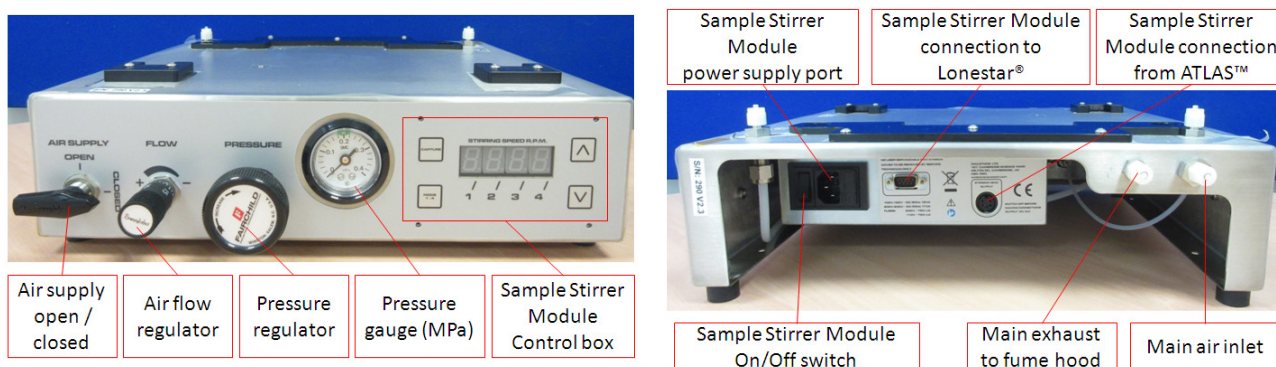

Figure 7 ATLAS™ Pneumatic Control Box front view (left) and back view (right)
- The ATLAS™ Pneumatic Control Box (Figure 7) with Swagelok® fittings capped off to avoid dust contamination during transportation.